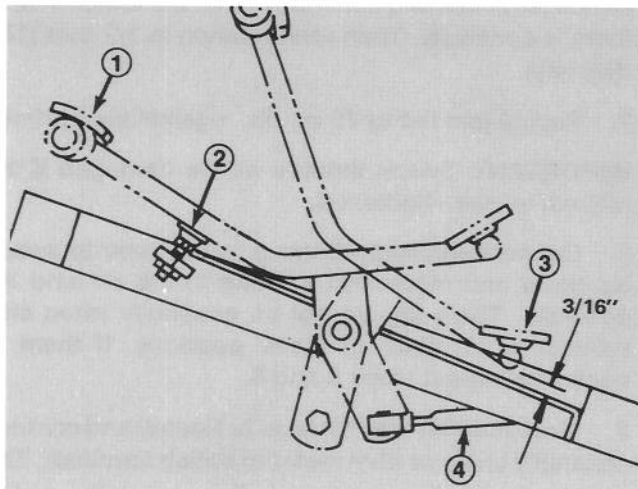

Figure 44
ADJUSTING TRACTION PEDAL (Fig. 44)
2. Check distance between bottom of pedal and footrest as shown in Fig. 44. Distance should be approximately 3/16". If distance is greater or less than 3/16" dimension, an adjustment to the traction control rod is required.